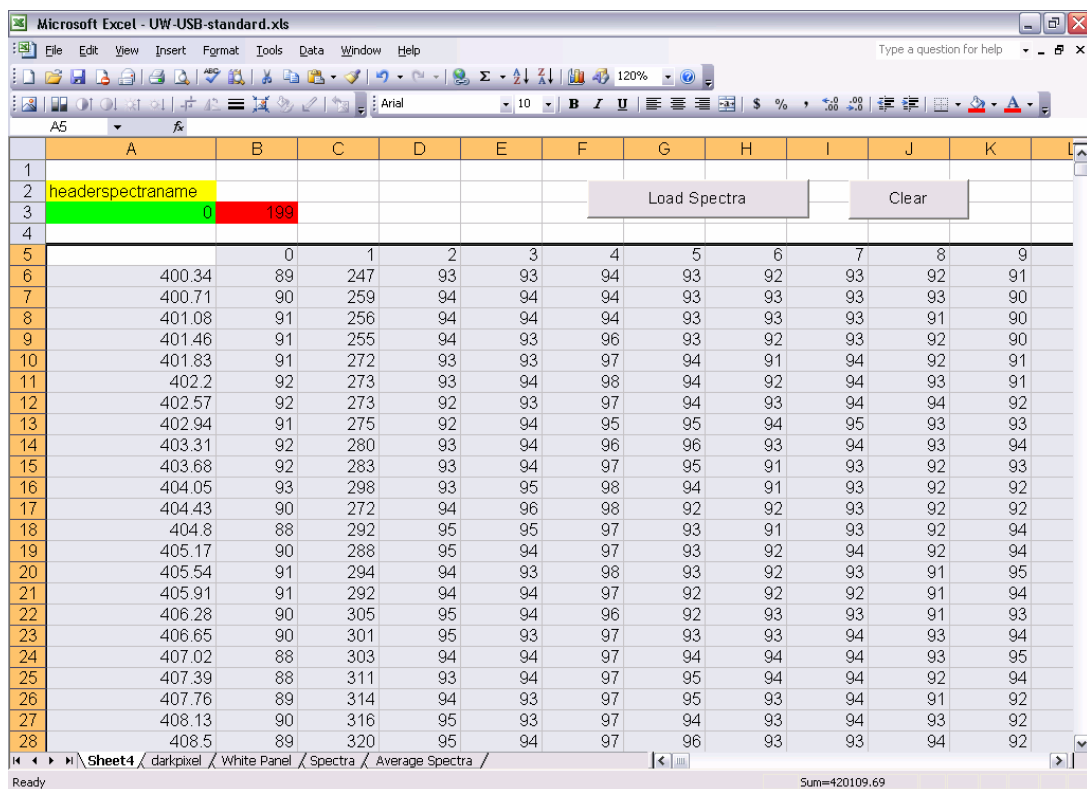

Figure 18 UW-USB-standard with spectra
3. Use paste special (as values) to place the the spectra (which has been copied in step 1) into the excel worksheet “sheet4”. After this the dark reading, white panel reading, average spectra and final spectra will automatically calculated and placed in different worksheets (Figure 18).